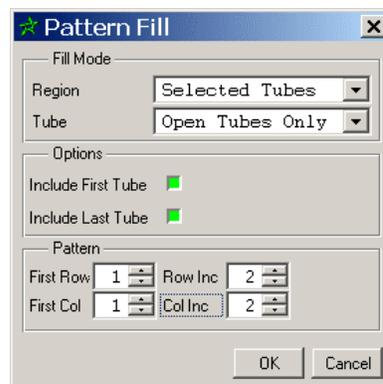

Figure 9-9. Pattern Fill Dialog
- STEP 10:** Set the *Col Inc* field to 2. The *Pattern Fill* dialog should now look like Figure 9-9.